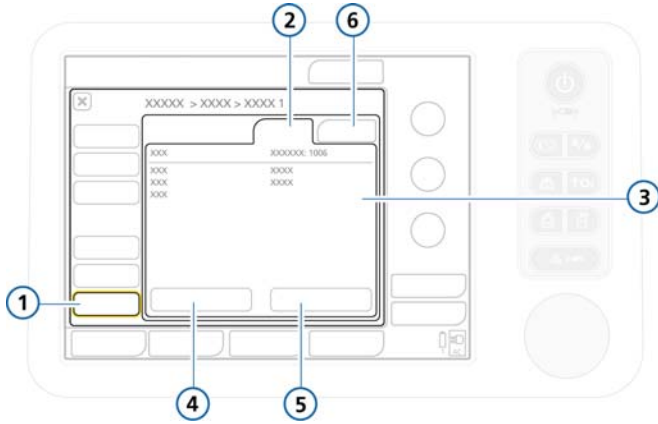

Figure I-17. SW options tab
2. Touch the desired tab: **SW options** for software, or **HW options** for hardware. See Figure I-17.